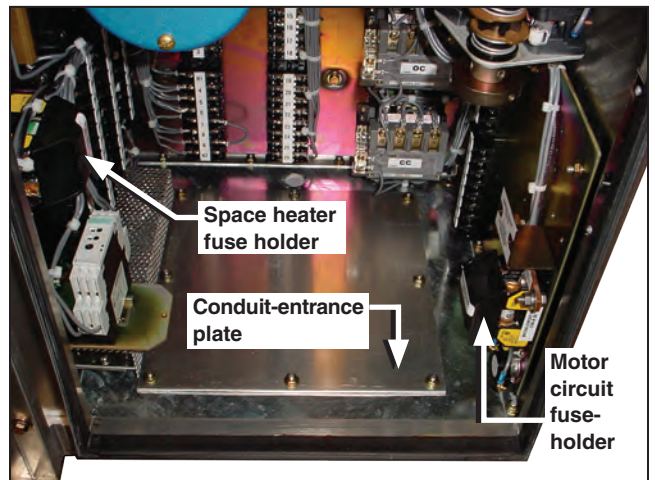

Figure 47. The location of the conduit entrance plate.
- STEP 1.** Mark the conduit entrance location for the control-circuit and control-power wiring on the conduit entrance plate. See Figure 47. Remove the conduit entrance plate and cut out the required openings.
To avoid accidental energizing of the operator after the external connections have been completed, remove the two-pole pull-out fuseholders for the motor and space heater. See Figure 47. **Reinsert the fuseholders only when indicated in the following steps.**